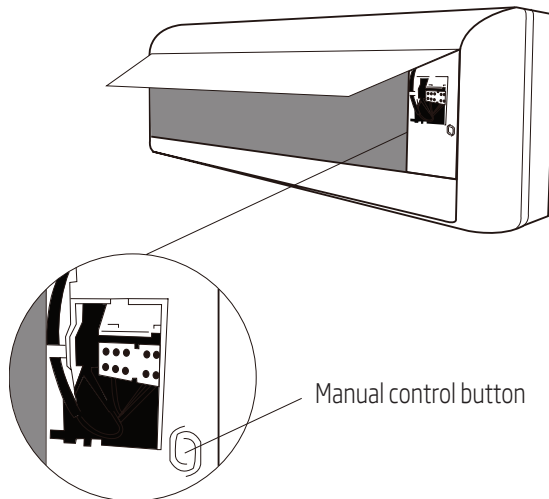

Fig. 9.1
2. The MANUAL CONTROL button is located on the right-hand side of the unit. Press it 2 times to select the COOL function. See Fig. 9.1